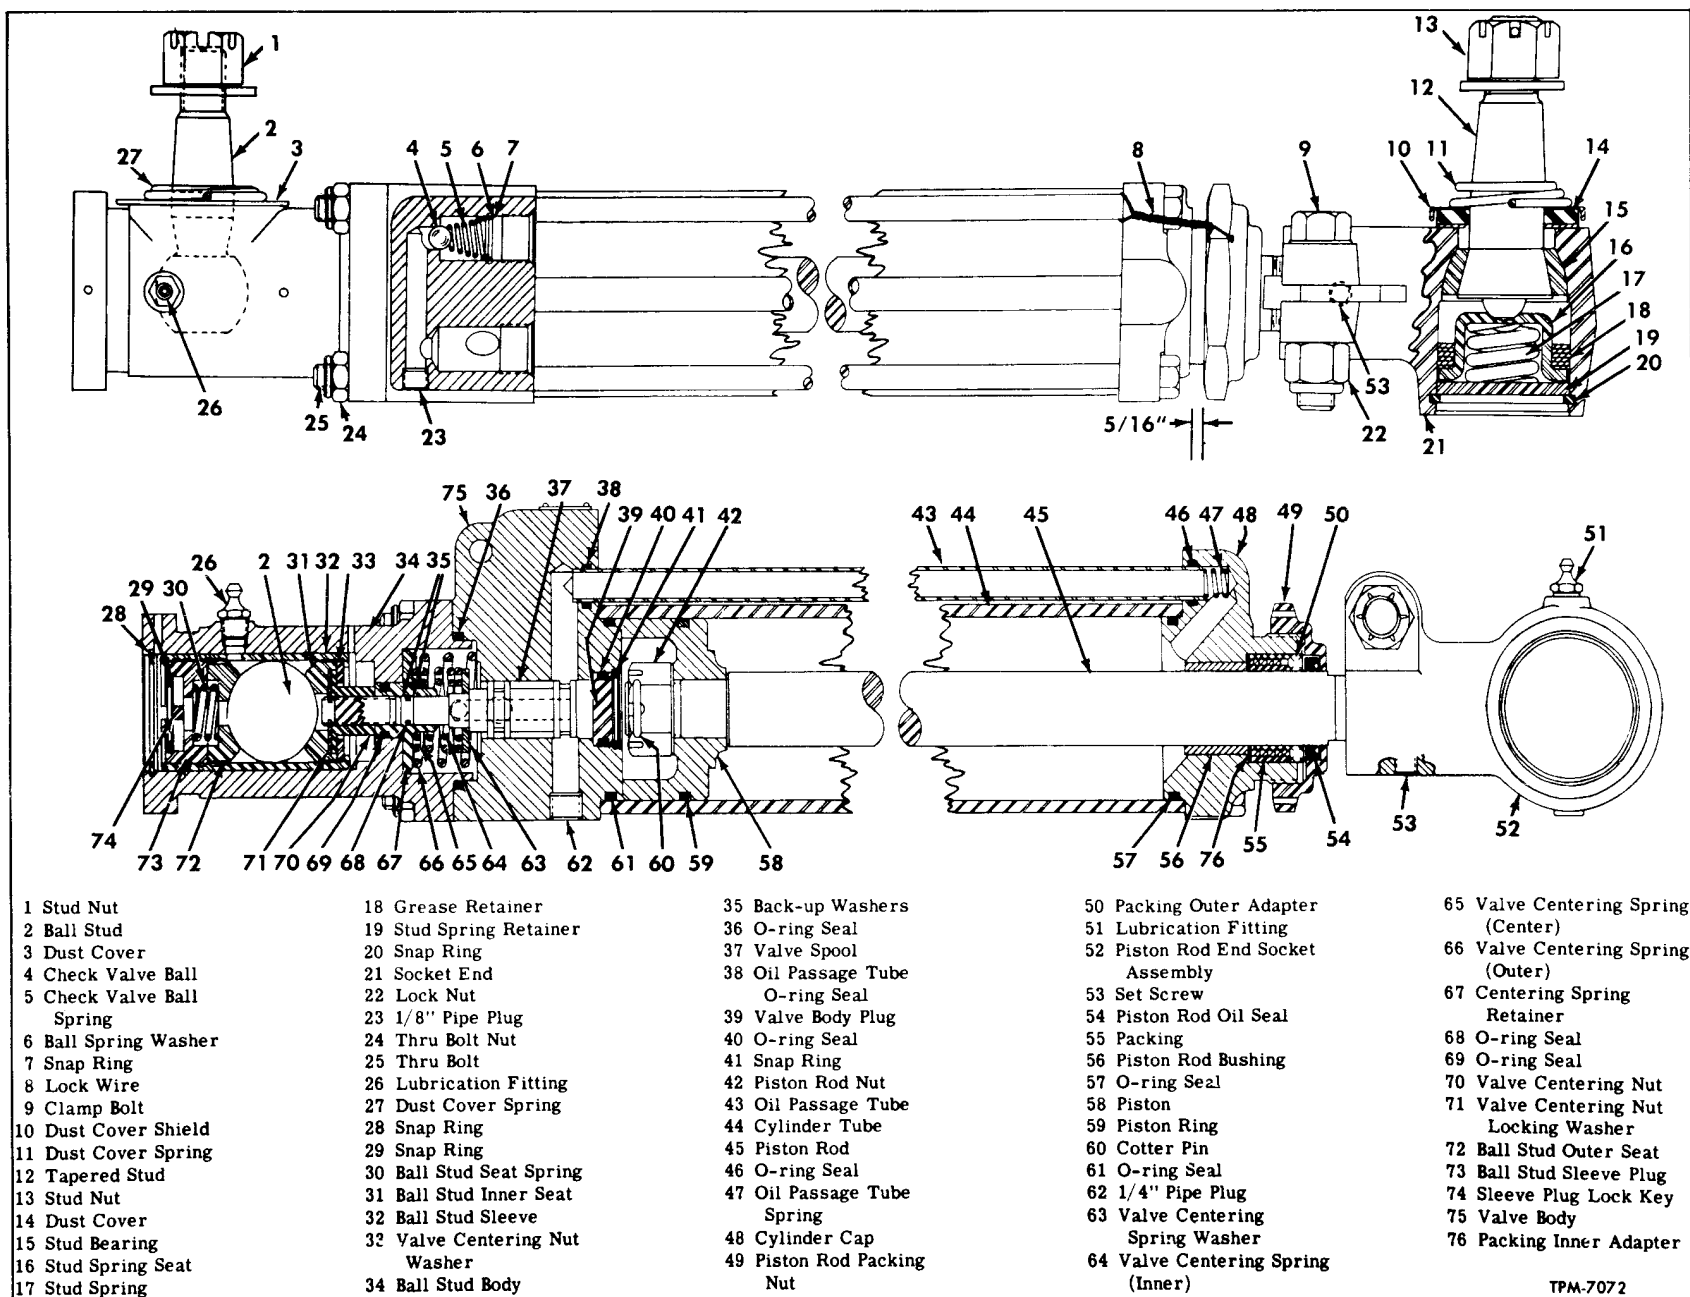

Figure 10—Power Steering Booster Cylinder Assembly
Key numbers in text refer to figure 10.
21. Press new piston rod wiper seal (54) in piston rod packing nut (49). NOTE: Install seal with seal lip positioned as shown in figure 10.
22. Position one new piston rod packing inner adapter (76), five piston rod chevron packing (55), and one piston rod packing outer adapter (50) over end of piston rod (45) and into cylinder cap (48).
IMPORTANT: Adapters and packing must be positioned as shown in figure 10.
23. Place piston rod packing nut (49) over end of piston rod and on cylinder cap (48). Tighten packing nut to dimension shown in figure 10. Install new lock wire (8) later. NOTE: Piston rod packing nut (49) should not be tightened excessively, as piston rod (45) and piston (58) should slide freely in cylinder tube (44) with hand pressure of approximately 35 pounds of force.
24. Insert oil passage tube spring (47) in bore of cylinder cap (48).
25. With aligning marks on valve body (75) aligned with marks on cylinder cap (48) and cylinder tube (44), move valve body against cylinder tube, at the same time inserting oil passage tube (43) into bore of valve body (75), and bore in cylinder cap (48) against oil passage tube spring (47).
26. Place ball stud body (34) and parts against valve body (75), aligning marks on ball stud body with marks on valve body. Make certain aligning marks on ball stud body (34), valve body (75), cylinder tube (44), and cylinder cap (48) are in alignment; then install four thru bolts (25), and four thru bolt nuts (24) connecting the assembly. Tighten nuts on bolts alternately and evenly until assembly is securely held together. Torque nuts to 20 to 25 foot-pounds.
27. Install new lock wire (8) around one thru bolt and through hole in packing nut as shown in figure 10.
28. While holding piston rod (45) with a 1-inch open end wrench, turn piston rod end socket (52) on piston rod (45) and adjust for length as described later under "Booster Cylinder Piston Rod End Socket."
30. Install ball stud seat (31), ball stud (2), ball stud seat (72), ball stud spring (30), and ball stud plug (73) in ball stud sleeve (32). Tighten plug (73) against spring solidly; then back off to first key slot in ball stud sleeve.
31. Position ball stud plug lock key (74) through
End socket stud is held against a tapered bearing by a seat and spring. An end plug and snap ring hold these parts in their correct relative position in end socket (fig. 10).